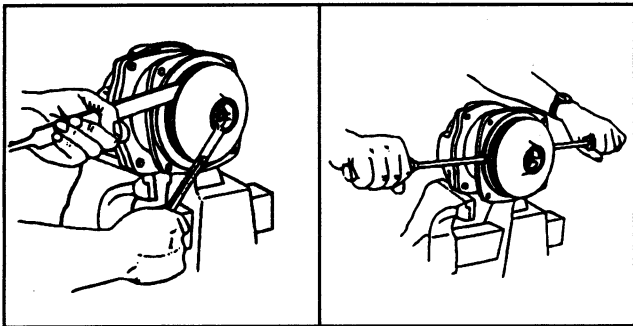

FIG. 6
2. To remove the impeller nut, clamp the flange in a vise and insert a large screwdriver or file (at least 10" long) into impeller vanes to prevent impeller from turning when loosening nut. Use a 5/8" box end or socket wrench to remove the impeller nut by turning it counter-clockwise. See FIG. 6.
3. Once nut is removed, place a screwdriver on each side (FIG. 6) behind the impeller and pry away from the mounting flange. Remove woodruff key from the shaft. Remove O-ring from the mounting flange. Remove O-ring and discard. O-ring should always be replaced.